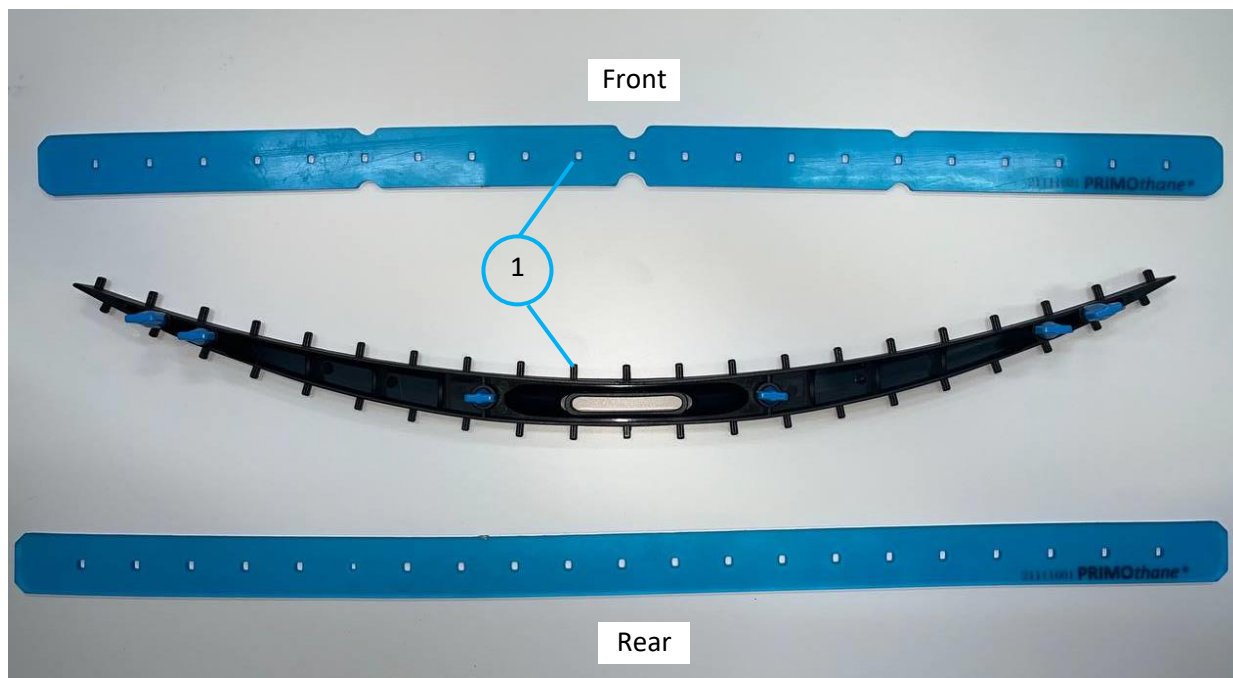

Fig. 7
4. Attach new rubber blades to the front and back of the rubber cartridge, aligning the rubber slots with the protrusions provided (Fig. 7 – 1).